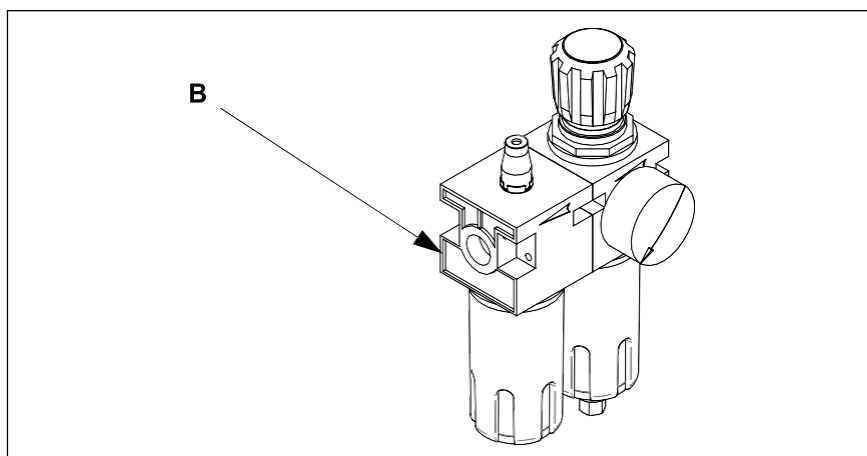

Fig. 7:
4. Connect the 1/2" maintenance unit (B, Fig. 7) at the input to the solenoid valve cabinet.